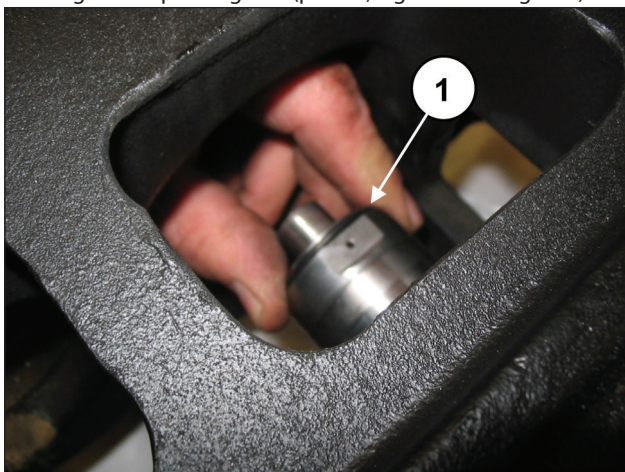
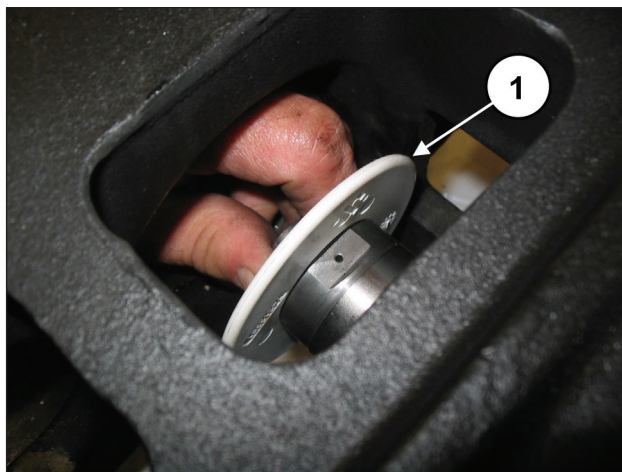

Fig. 179
Fig. 180
Position the spray-guard together with the O-ring in the housing on the piston guide (pos. ①, Fig. 179 and Fig. 180).